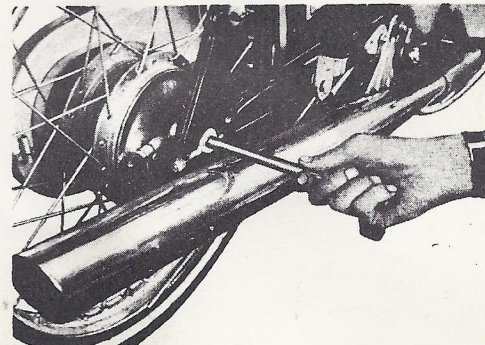

Fig. 4-2-5
- b. Remove the nut and then rear wheel axle. (Fig. 4-2-5)